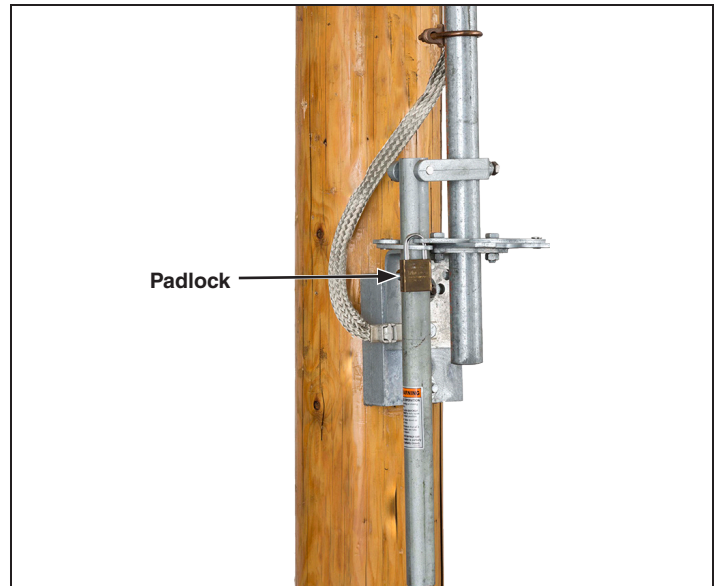

Figure 23. Remove the padlock from the manual operating handle.
- (a) Remove the padlock(s) from the hasps on the operating-handle assembly. See Figure 23.